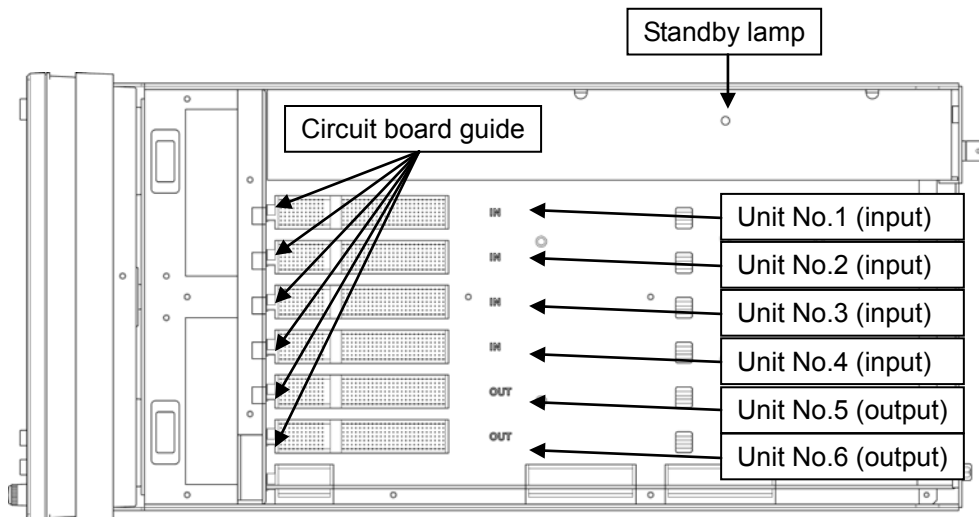

Figure 5-3 Installation position of units
The LV 5800(A) is in standby mode even if the power switch is turned off, and electricity is applied to the internal circuit. Be sure to remove the power plug from the outlet before installing or removing units. Otherwise, electric shock or malfunction may result. If the power plug is connected to an outlet and the power switch on the front panel is OFF, the standby lamp shown in Figure 5-3 blinks.
The units that can be installed in the LV 5800(A) can be divided into input units and output units. Input units can be installed in the slots marked Unit No. 1 to 4 (input) in Figure 5-3. Likewise, output units can be installed in the slots marked Unit No. 5 and 6 (output).